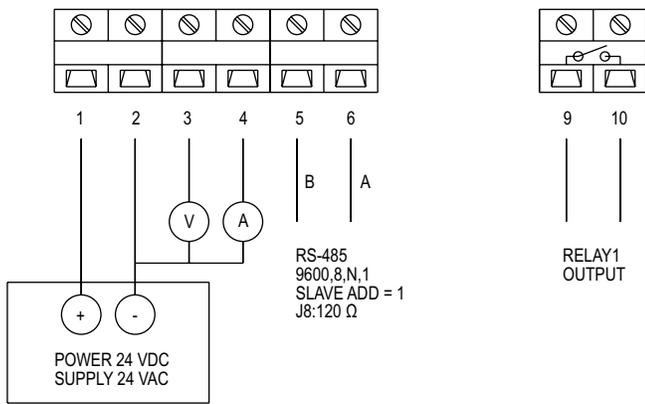

Figure 3: Communicating and analog terminal board
- Finish electrical connection according to the wiring diagram in Figure 3.
Shown in Figure 3 below is an example of a communication terminal block. Analog only models will not include terminals 5 and 6. Terminal 3 is the 0-10 V output and terminal 4 is the 4-20 mA output. For RS-485/Modbus® communication refer to the **RS-485 COMMUNICATIONS/Modbus® RTU** section later in the manual.